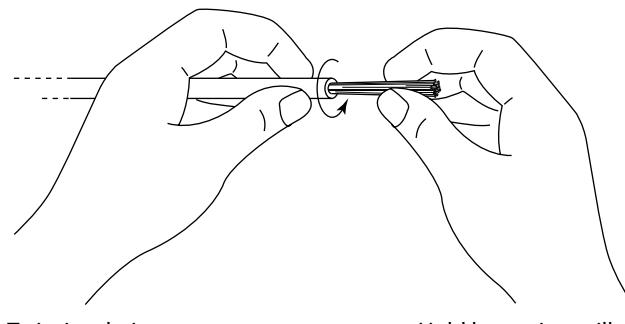

FIGURE 8-8: Twist insulation while holding stripped wires.
2. Twist the bare wire strands tightly together by holding them still between thumb and forefinger and spinning the wire where the cut insulation begins with your other hand (see Figure 8-8).